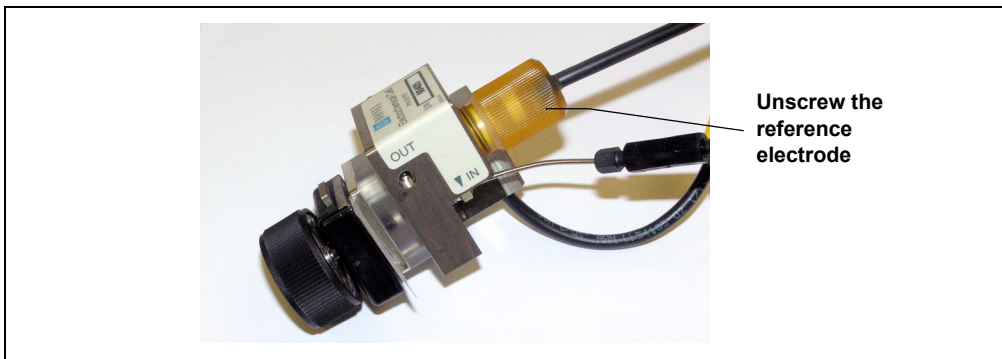

Figure 9-40. Removing the Reference Electrode
4. Unscrew the reference electrode and remove it from the cell body (see Figure 9-40).